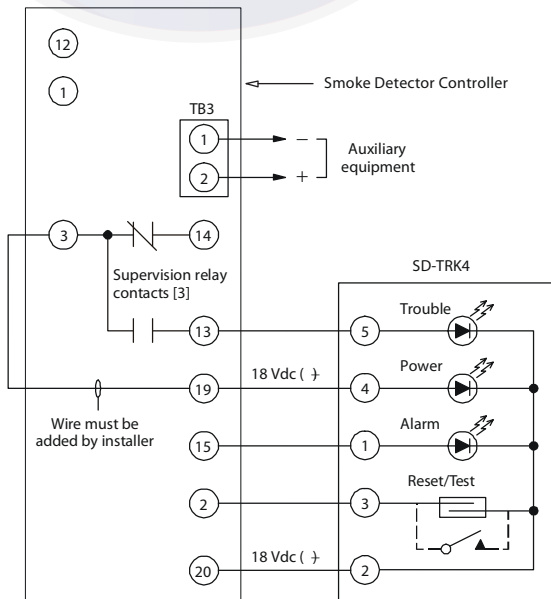

Fig. 52 - Remote Test/Reset Station Connections
The test/reset station dirty sensor test checks the test/reset station's ability to initiate a sensor dirty test and indicate the results. It must be wired to the controller as shown in Fig. 52 and configured to operate the controller's supervision relay. For more information, see "Changing sensor dirty test operation."
1. Verify that the remote test/station is wired as shown in Fig. 52. Repair or replace loose or missing wiring.